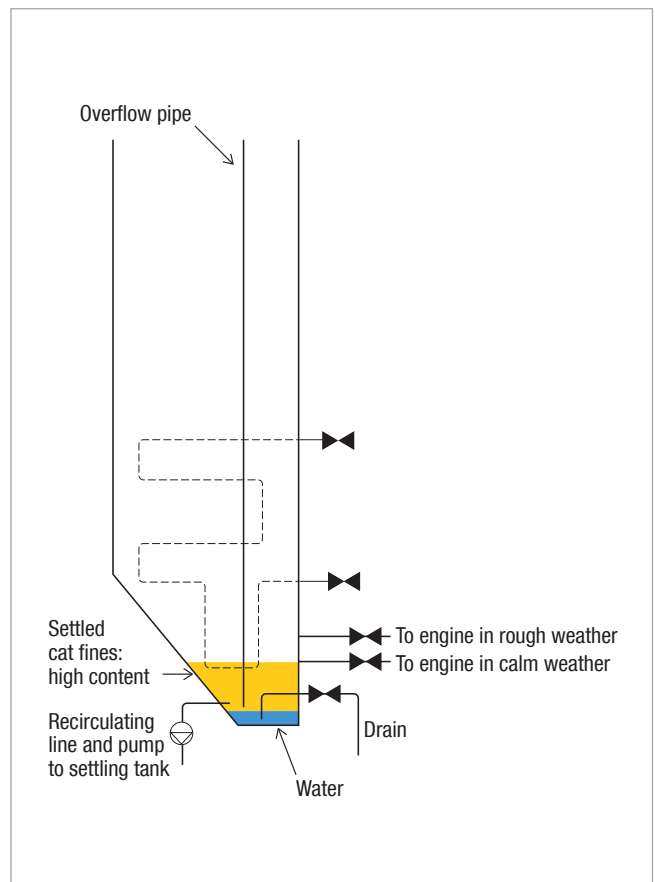

Fig. 7: Schematic drawing of fuel service tank - note that the overflow pipe goes to the bottom of the tank
- enable cleaning of the tanks in service by recirculating the fuel back to the centrifuges, either by having the overflow pipe in the service tank leading all the way to the bottom of the tank and led to the top of the settling tank, and/or by means of a separate line and a recirculating pump, see Fig. 7 and also Ref. [1]
- use a high-suction line – to better protect against cat fines settled in the bottom of the tank, see Fig. 7.